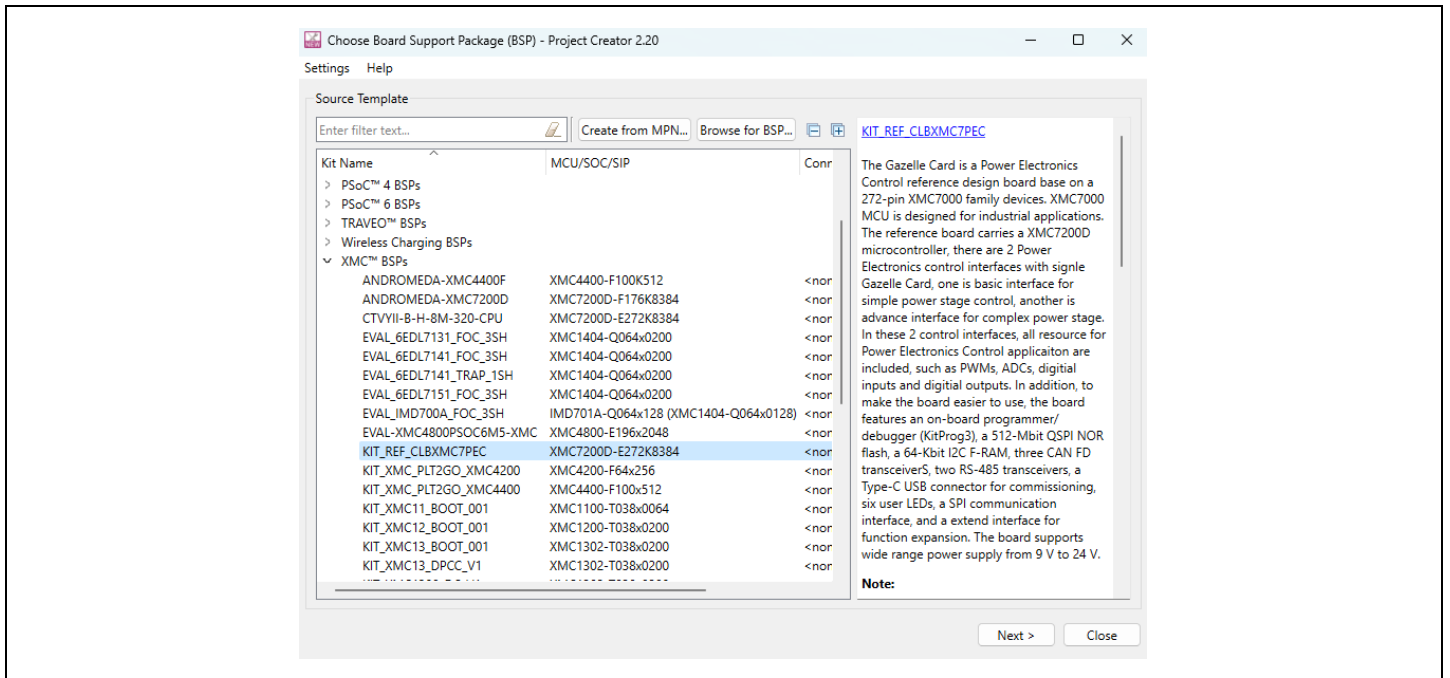

Figure 16 Select the BSP
4. Select the kit name KIT_REF_CLBXMC7PEC in the category, XMC™ BSPs, and click **Next** (see Figure 16).